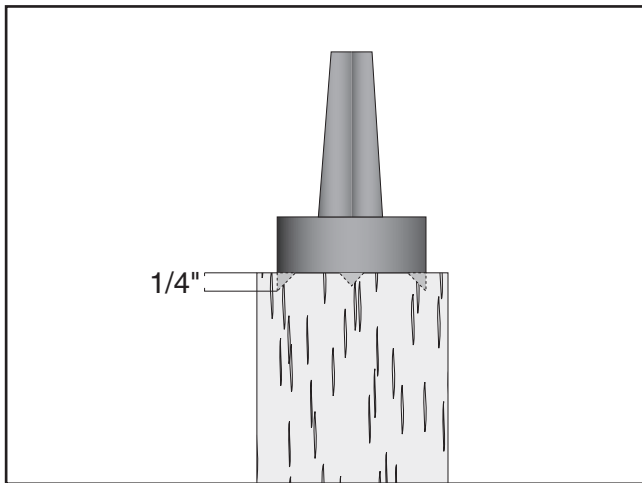

Figure 22. Spur center properly embedded.
5. Drive the spur center into the center of the workpiece with a wood mallet to embed it at least $\frac{1}{4}$ ", as shown in **Figure 22**.